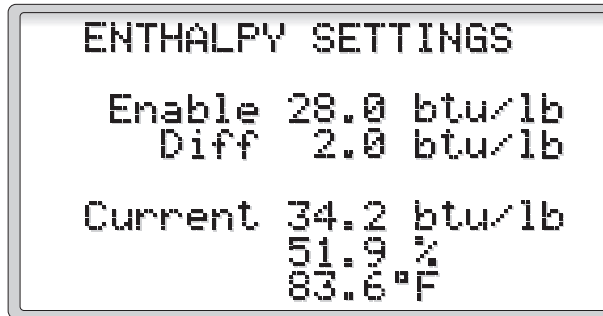

Figure 22
2.2.3.3 Enthalpy Settings (Figure 22)